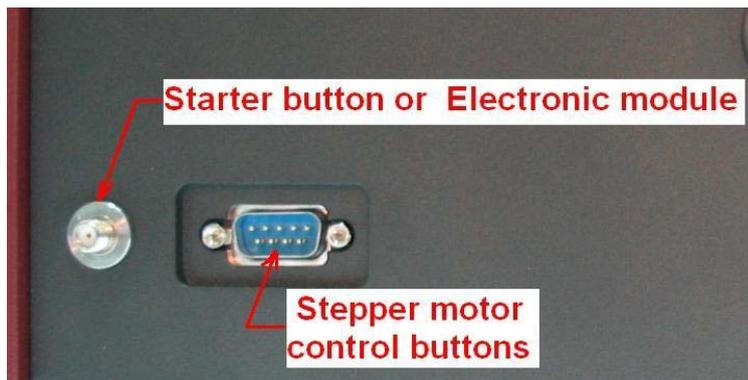

Fig. 5
6. Connect the Starter button or *Electronic starter* to the laser head (*Fig. 5*). Tap power supply into power line. *Detailed description of this device can be found in section "ELECTRONICS MODULE (Version LS-6.0)" of the current manual*
7. *Optional: motorized slit and prism: Connect the control buttons (small gray box) to the laser head (Fig. 5). Insert the power supply into power line. Detailed description of this device can be found in section "Control Module of The Stepper Motor (SMC245-1v2)" of the current manual.*